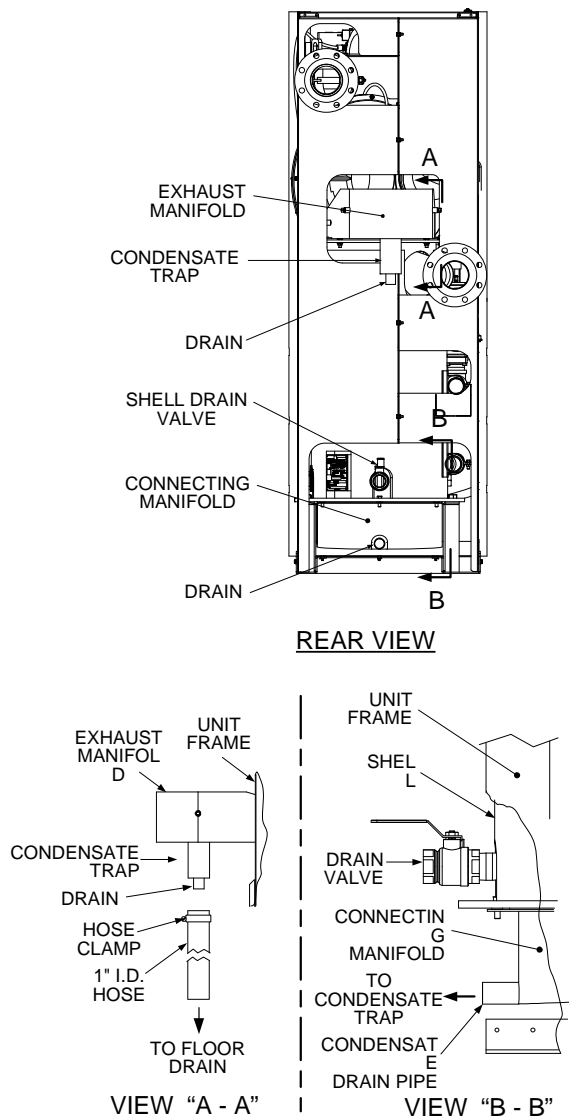
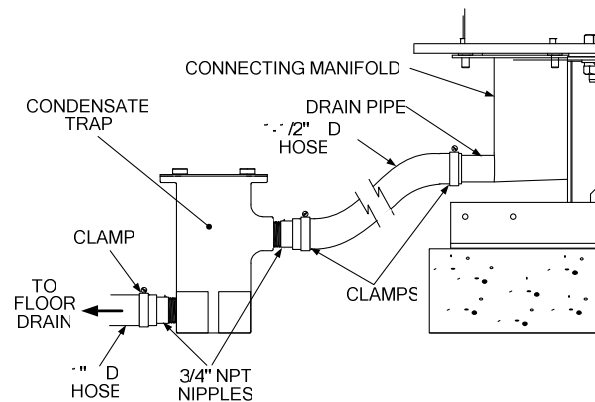

Figure 2-5
Figure 2-6
Two condensate drain connections are provided on the rear of the unit as shown in Figure 2-5. One drain connection is located on the exhaust manifold and the other is located on the connecting manifold.
Refer to Figure 2-5, View A – A and install as follows:
The connecting manifold drain pipe shown in Figure 2-5, View B – B must be connected to a separate condensate drain trap external to the unit. Refer to Figure 2-6 and install the trap as follows:
- The condensate trap described in the following steps can be installed on the floor behind the unit as shown in Figure 2-6. There will be sufficient downward slope from the drain pipe to the trap inlet to drain the condensate by gravity. Ensure that the outlet hose from the trap slopes away (down) from the trap.
3. Attach a length of 1½" I.D. hose (part no. GM-123352) between the connecting manifold drain pipe and the inlet side of the condensate trap (Figure 2-6). Secure both ends of the hose with clamps.